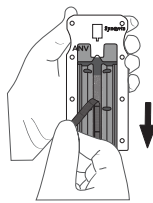

Figure 2
8. Grasp protective liner pull tab from distal end of loading unit and carefully peel protective liner to expose adhesive (See Figure 2).